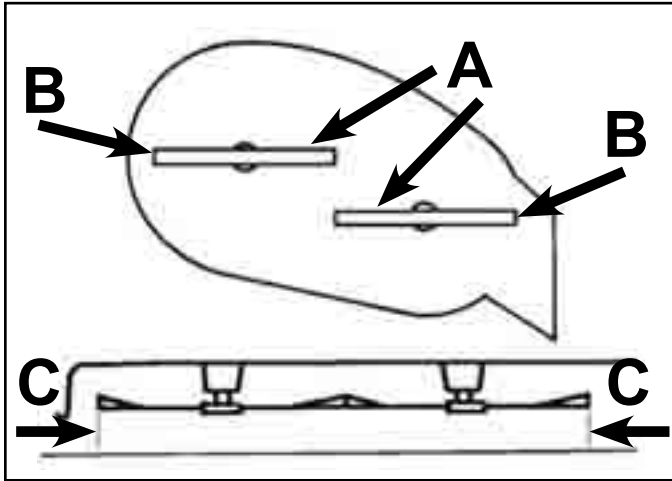

Fig A6 015 fig. 46 m-1891
- Carefully rotate the blades side to side (Fig. A6 015). Measure between the outside cutting edges and the flat surface. If both measurements are not within $\frac{3}{16}$ " (5mm), an adjustment is required; refer to steps 6 and 7.